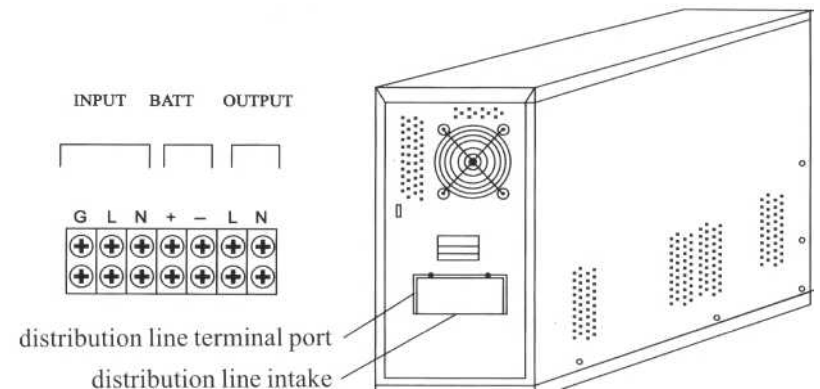

figure 5: UPS distribution terminal block
- b. Open the lid, and distribution terminal port under the power switch can be presented as shown in figure 5.